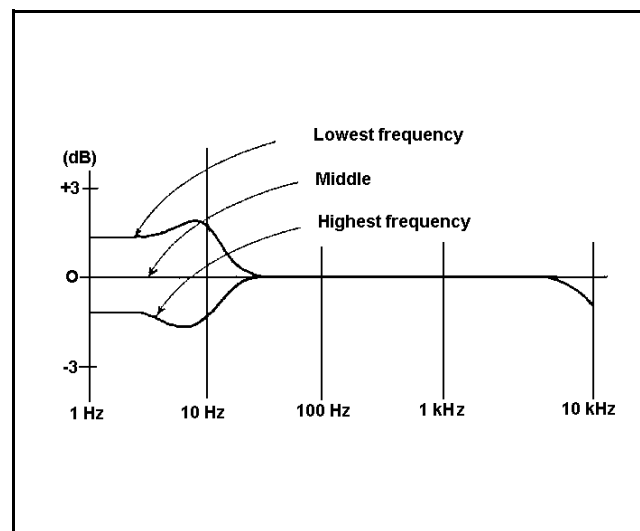

Figure 9 - Typical Modulation Frequency Characteristics
4. Change the carrier frequency to the highest channel of the band and then to the lowest channel. Check the modulation flatness each time (refer to Figure 9).